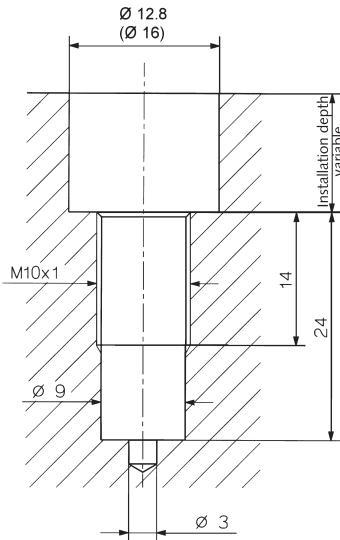

Fig. 1: Mounting hole with flat bottom
- Prepare the mounting hole as shown in Figure 1; the 9 mm \varnothing end bearing surface for the sensor must be machined clean and flat (and if necessary finished with Type 1300A21 tool and blown out with clean compressed air).